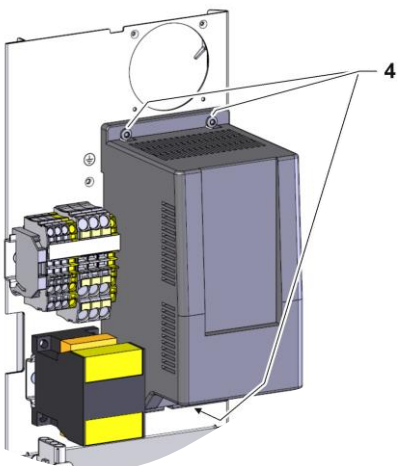

Fig. 4: Installing the frequency converter
- Fasten 3x the fixing screws (Label 4 → Fig. 4) of the frequency converter (U 1) on the rear wall.